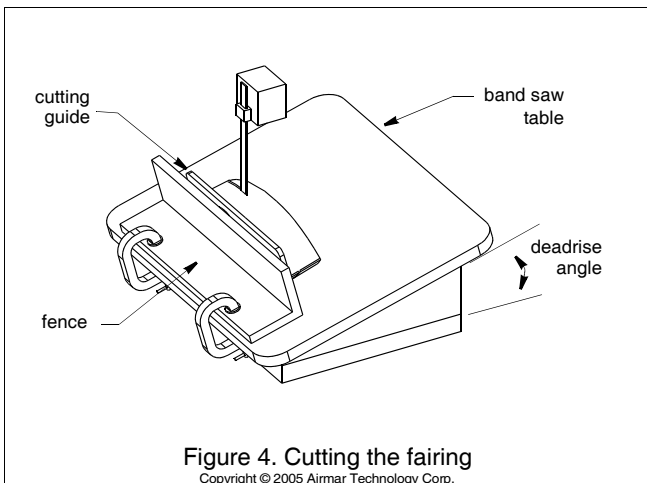

Figure 4. Cutting the fairing
2. Tilt the band saw table to the measured angle and secure the cutting fence (see Figure 4). *Do not exceed 22°.*
3. Place the fairing on the table so the cutting guide rests against the fence (see Figures 4 and 5). Note the fairing is symmetrical.